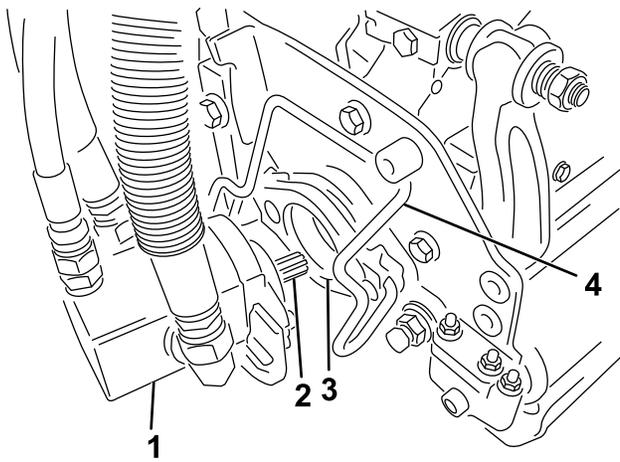

Figure 35
5. Coat the spline shaft of the cutting unit motor with clean grease (Figure 35).
6. Insert the motor into the left side of the cutting unit (as viewed from the operator's position) and pull the motor retaining bar on the cutting unit toward the motor until you hear an audible “click” from both sides of the motor (Figure 35).